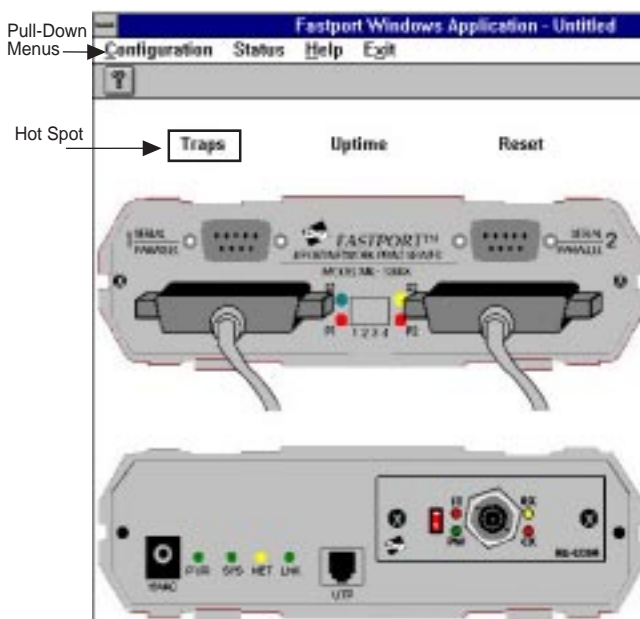

Figure 4-2. MIL-3200X Graphical Icon
- c. Double-click on a thumbnail to display a full-screen image of that particular SNMP device (see Figure 4-2).
- c. A full-screen image of that device appears (Figure 4-2).